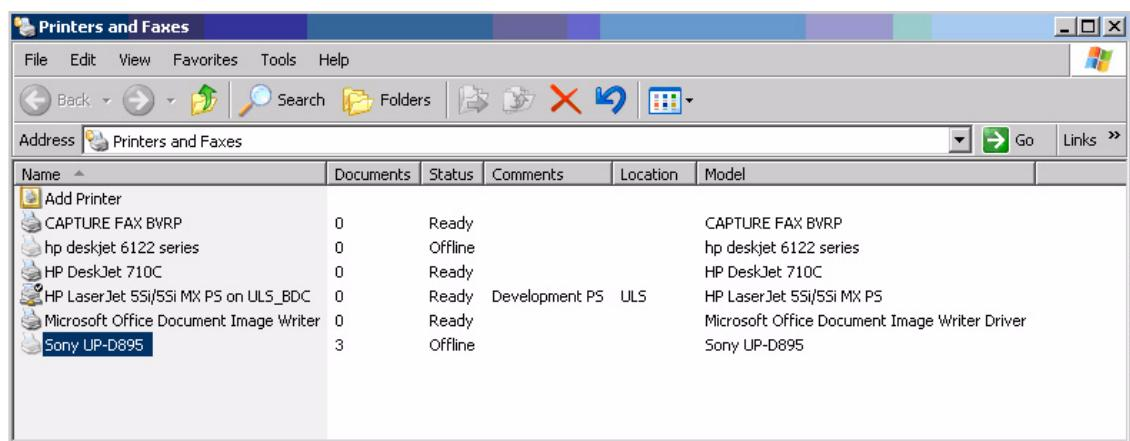

Figure 3-44 Printers and Faxes Window
- 2) Right-click on the destination virtual printer (see Figure 3-44) and select Open.